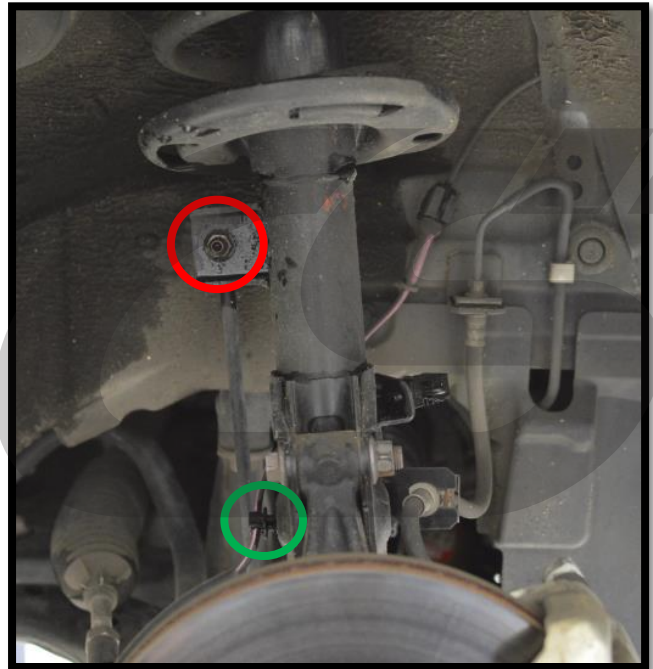

Figure 1a
- c) Remove the front passenger wheel from the vehicle using an impact wrench or 1/2" drive ratchet (or breaker bar) and 21mm socket (or other if using locking lug nuts). Your front wheel well should now look like **Figure 1a**.
- d) Remove the one (1) 14mm nut (shown in **Figure 1a** circled in red) that holds the front endlink to the factory swaybar using a 14 mm wrench. If the stud spins, insert a 5mm Allen Wrench into the center of the stud to hold it while you loosen the nut. Then push the endlink free from the strut.
- e) Remove the ABS sensor wire shown with the green circle in **Figure 1a** by squeezing the base with needle nose pliers.